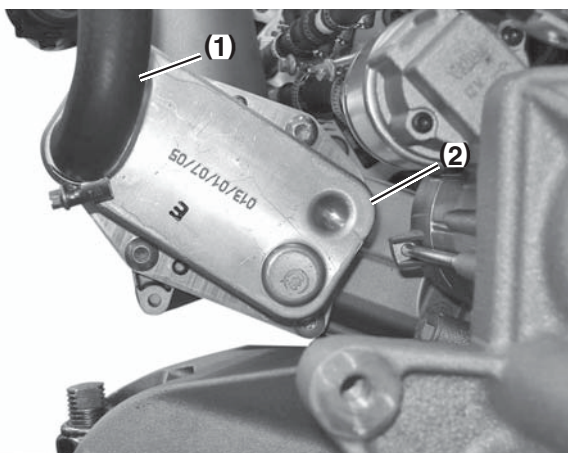

Figure 8-13
6. Disconnect coolant pipe hose (**Figure 8-13, (1)**) from oil cooler (**Figure 8-13, (2)**).